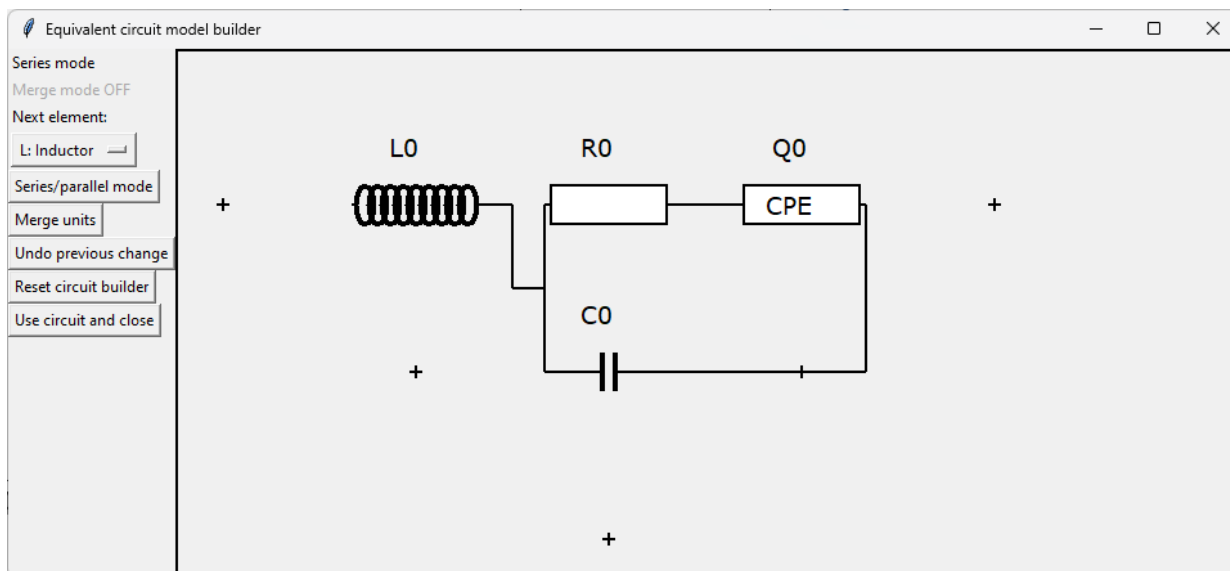

Figure 17: Chosen circuit for $\text{RbOH} \cdot x\text{H}_2\text{O}$.
6. Now it is time to define an equivalent circuit model. Because the phase angle goes up at high frequencies, an inductor should be included. Other than that, the Randles circuit (with a CPE instead of a Warburg element for the low-frequency region) will suffice. This circuit can be drawn via **Circuit>Draw circuit**; see Figure 17. With **Use circuit** and **close**, the circuit is set.